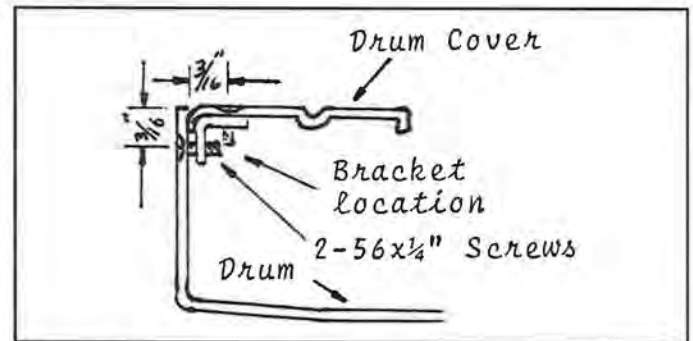

Figure 7.
*Step 12.* Center the scribe mark, on a bracket, under a hole near the index mark on the drum cover. Press the bracket firmly against the inside outer edge. (See Figure 7.) Scribe a circle on the bracket through the drum cover. Center punch the circle. Drill a hole with a #50 drill, and tap the hole in the bracket 2-56. Number this bracket and the hole in the drum cover. Number, scribe, drill, and tap the other seven brackets.